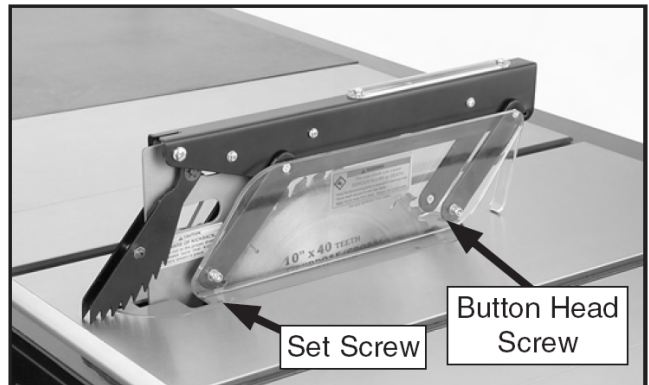

Fig.16: Blade guard installed.
C. give the spreader an upward tug to verify that it is locked the blade guard, when properly installed, should look like **Fig. 16** and should pivot freely so it touches the table surface in the down position. it should also swing up high enough to accommodate the workpiece.